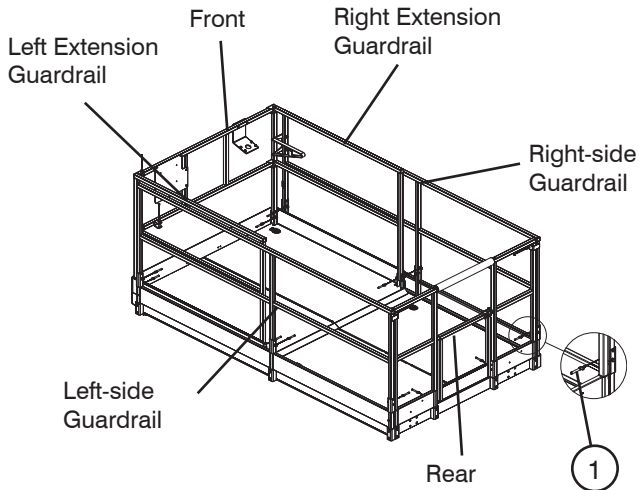

Figure 3-12. Folding Guardrail System
6. Fold guardrails down in the following order: rear, front, left extension, right extension, left-side and right-side (refer to Figure 3-12).